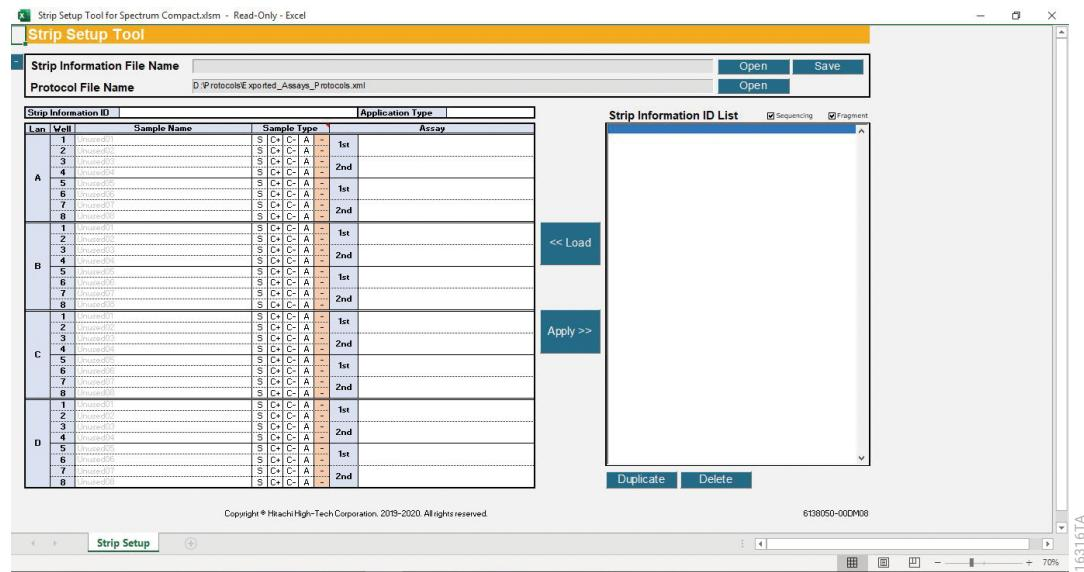
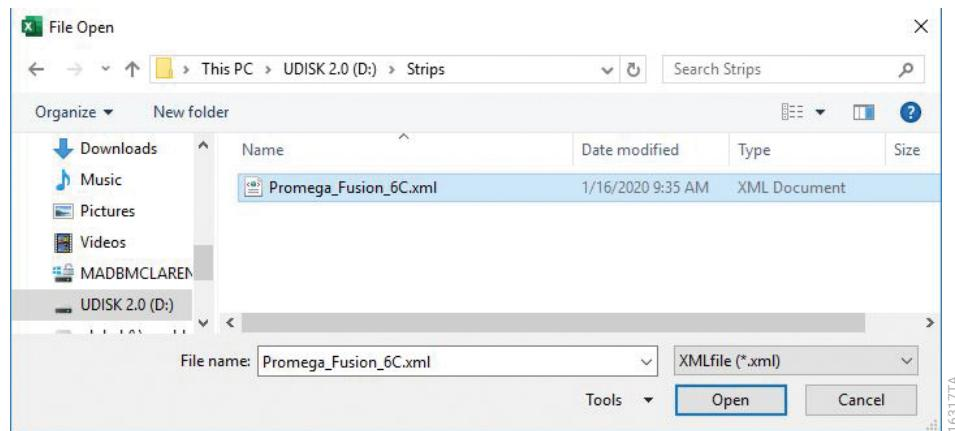
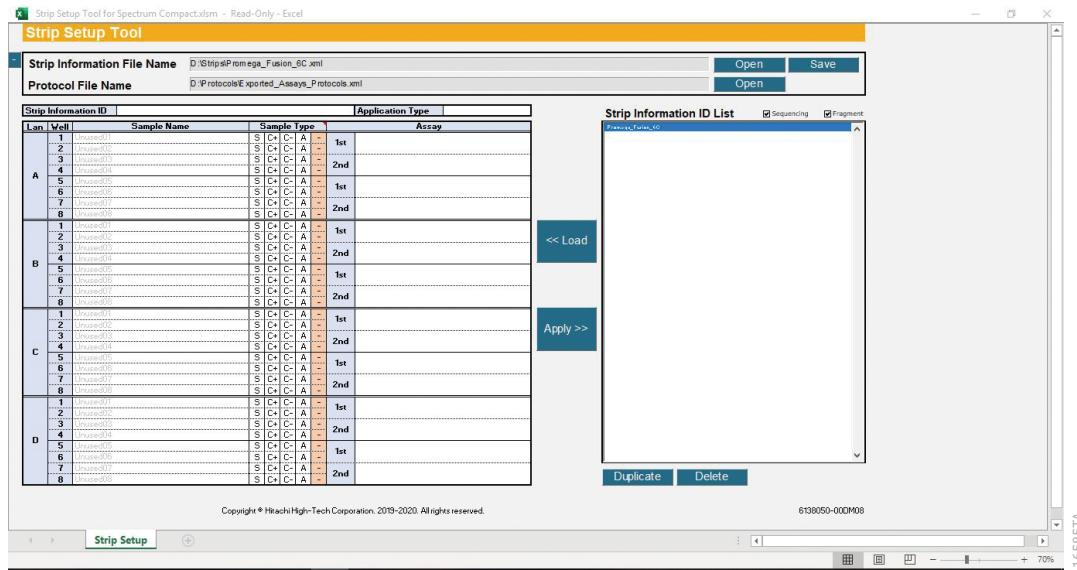

Figure 249. Strip Setup Tool for Spectrum Compact with Protocol .xml file in Protocol File Name.
Figure 250. Browsing window.
Figure 251. Strip Setup Tool for Spectrum Compact with strip .xml file in Strip Information File Name.
1. After opening a protocol .xml file within the Strip Setup Tool for Spectrum Compact, select **Open** on the right-hand side of the Strip Information File Name box (Figure 249). This opens a browsing window. Browse to the location of the strips .xml file created and select **Open** (Figure 250). A Microsoft® Excel® window will appear stating "Strip information file read complete". Select **OK** to close out of this window. The strip .xml file name is now displayed at the top of the Strip Setup Tool in the Strip Information File Name box (Figure 251).
2. Select the desired Strip in the Strip Information ID List on the right-hand side of the screen followed by **Load** (Figure 251).